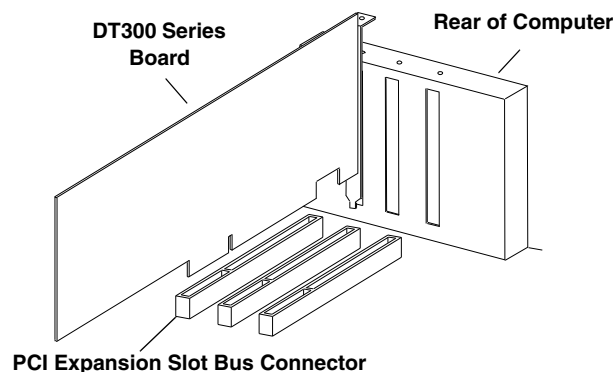

Figure 2: Inserting the DT300 Series Board in the Computer
4. Position the board so that the cable connectors are facing the rear of the computer, as shown in Figure 2.